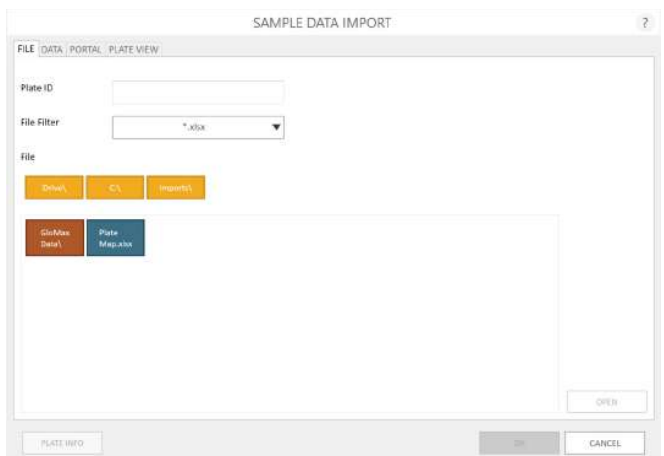

Figure 47. ‘Sample Data Import’ screen. First screen shown when importing a plate map into the GloMax® Software.
3. Tap the **Import** button located on the right side of the ‘Protocol-specific’ screen (Figure 46) to display the ‘Sample Data Import’ screen (Figure 47).